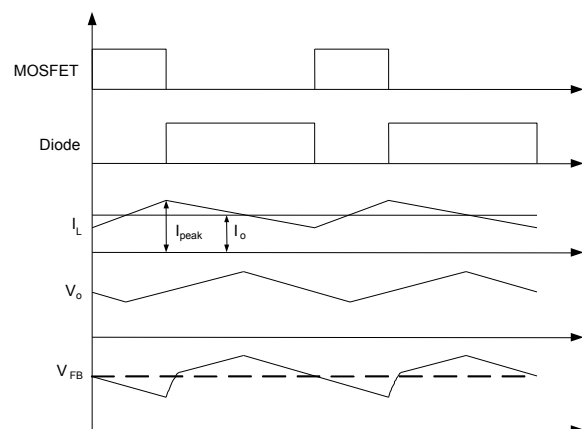

Figure 3: Constant-Voltage Regulation
The lower resistor of the internal feedback divider is $500\text{k}\Omega$, typically. As a result, when a feedback divider is connected to FB externally with a much smaller resistance, the internal feedback is overridden, so the MP175 output voltage is externally adjusted (see Figure 3).
As shown in Figure 3, the internal MOSFET is turned on when the feedback (FB) voltage is lower than the MOSFET turn-on threshold (V_{FB}) and is turned off based on the peak current limitation.